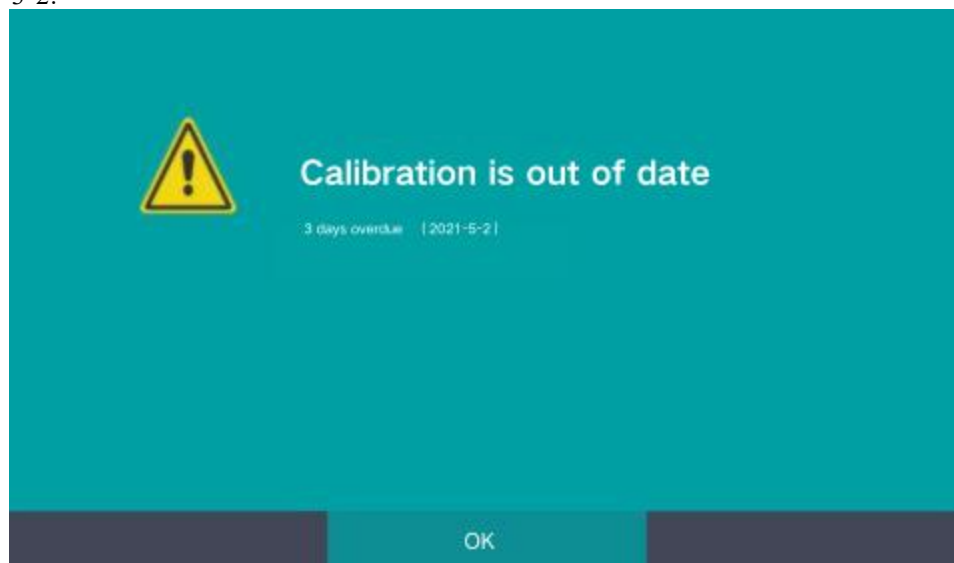

Figure 5-3-2 Admittance Calibration Overdue Reminder Screen
5) Calibration Reminder: Sets the number of days in advance to remind the user before the annual calibration is due, adjustable within a range of 0 to 60. When the admittance calibration is due, the reminder screen will appear directly upon startup. Press the OK button again to return to the normal test screen. The calibration due reminder screen is shown in Figure 5-3-2.